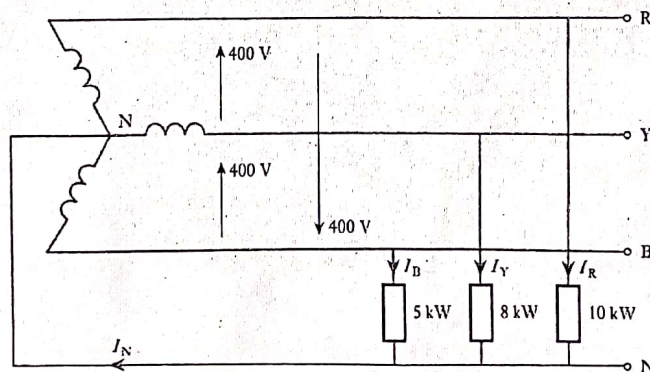

Fig. Q.7
- (ii) In a three-phase four-wire system the line voltage is 400 V and non-inductive loads of 10 kW, 8 kW and 5 kW are connected between the three line conductors and the neutral as in Fig. Q-7. Calculate the current in each line. [4 marks]